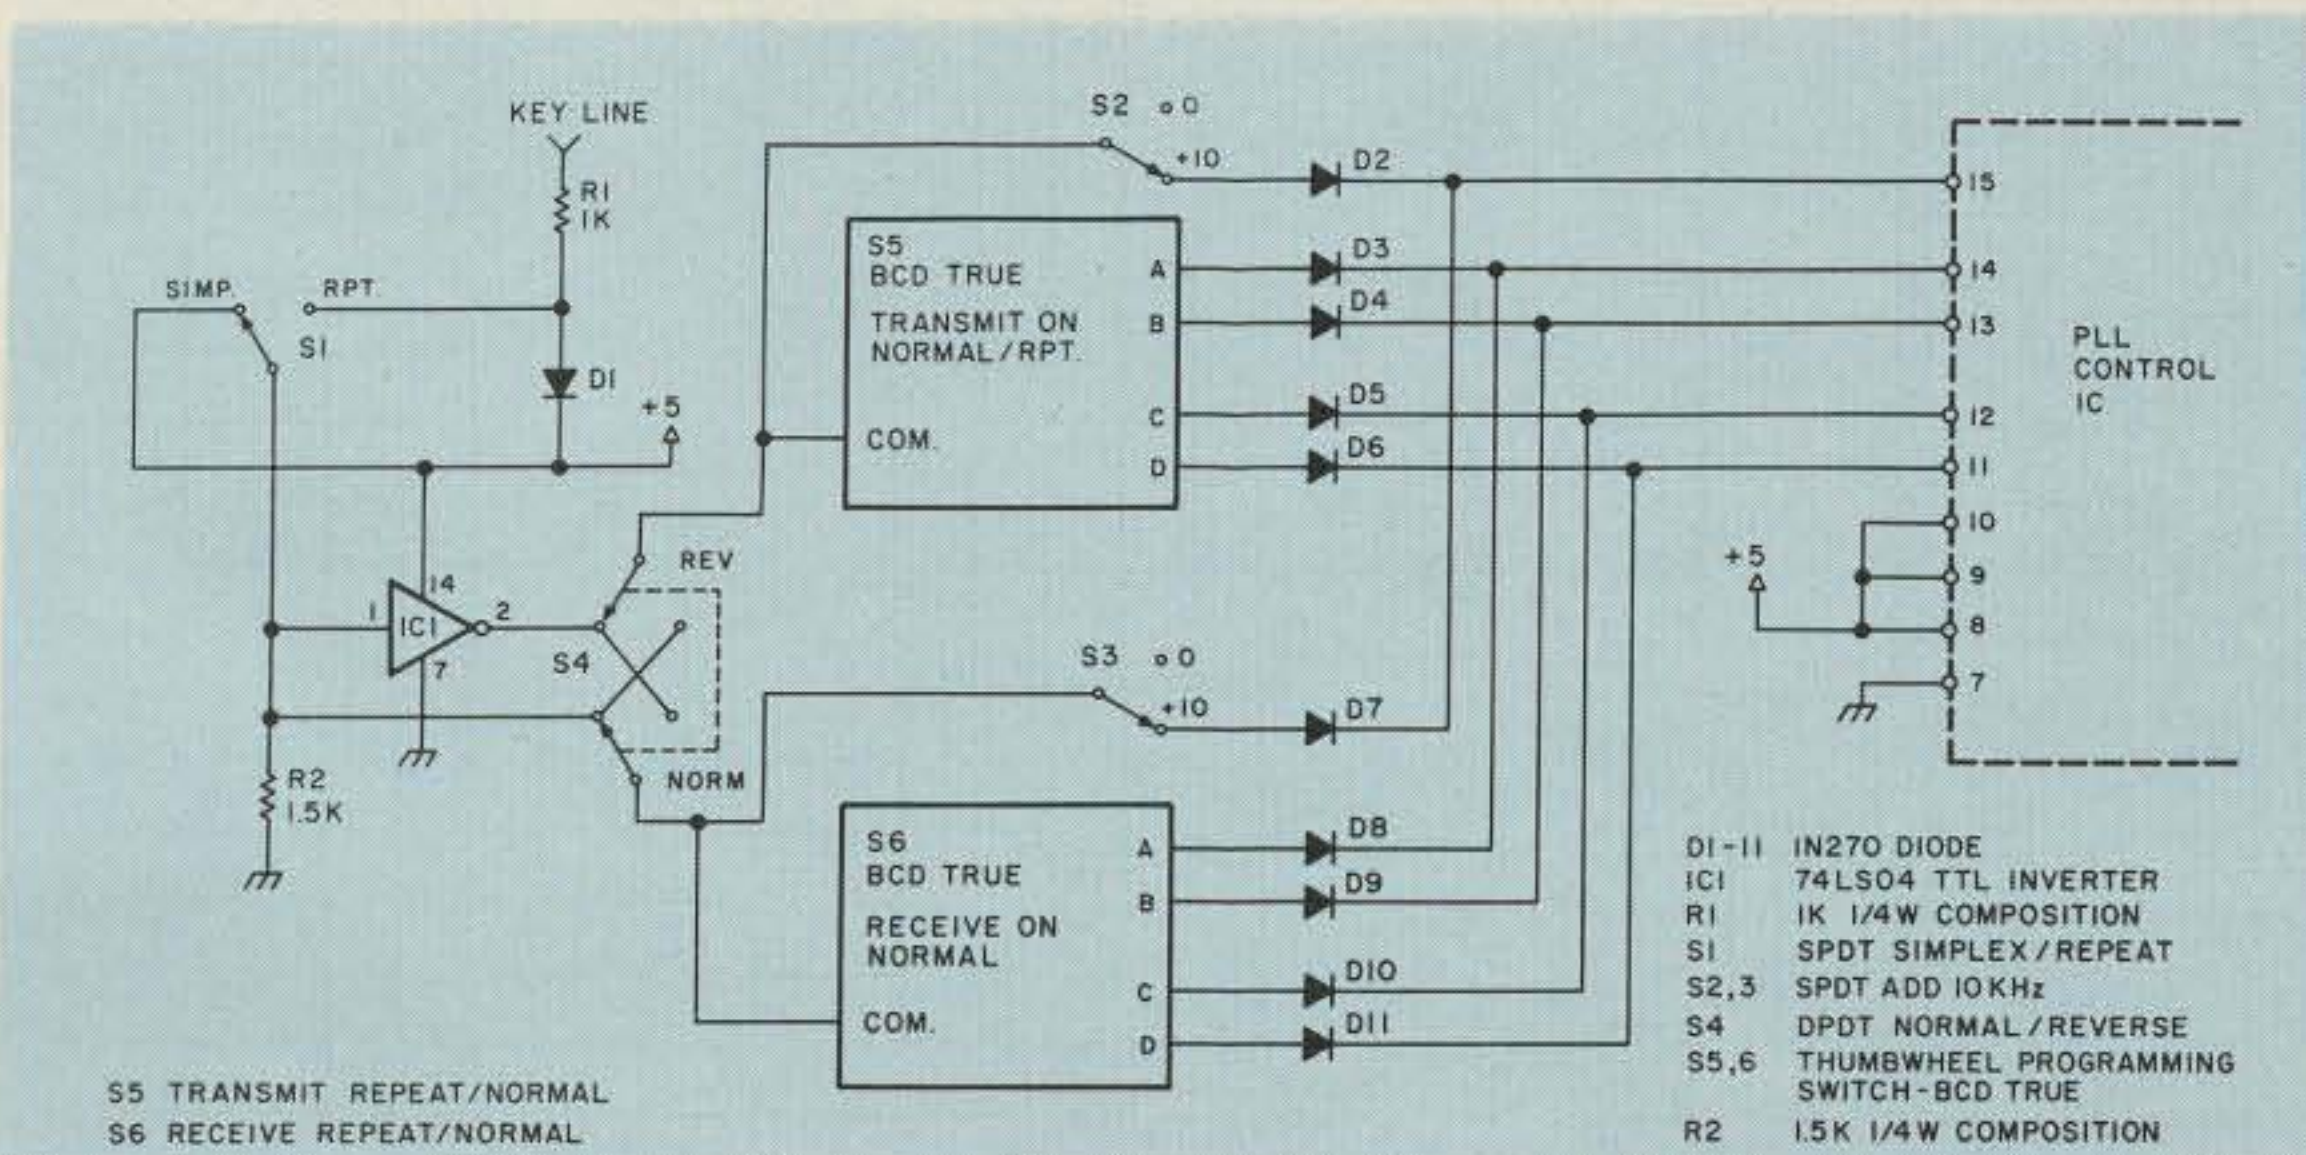

Fig. 5. BCD switch frequency programmer.
b) Install thumbwheel, octal, or BCD programming switches. This option requires some additional construction, but permits complete frequency coverage and, with the addition of a second set of programming switches, allows multiplexing transmit and receive frequencies for repeater operation. The switches can be BCD, octal, or individual toggle switches. Fig. 5